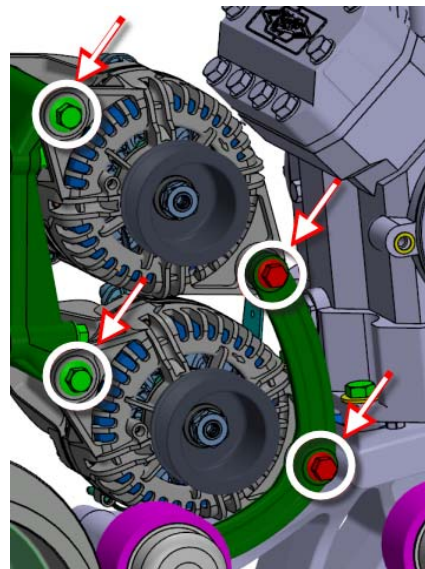

FIGURE 13
21. Remove the existing alternators. To do so, unscrew the four (4) mounting bolts identified on **FIGURE 13**.